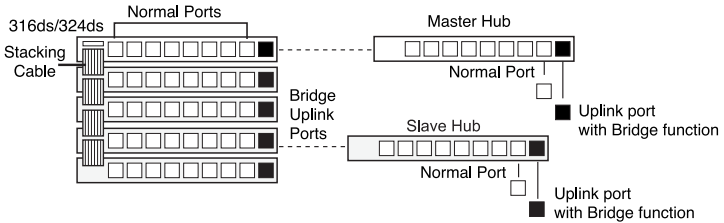

Figure 3-3 Master and Slave hubs in stacking ALH-316ds/324ds.
- The hub will be divided into Master and Slave hubs when they are stacked together. The upper most hub is the Master hub, and other hubs are Slave hubs. The Master hub continues to use the built-in switch but the switch in the Slave hubs will be disabled, as in Figure 3-3.